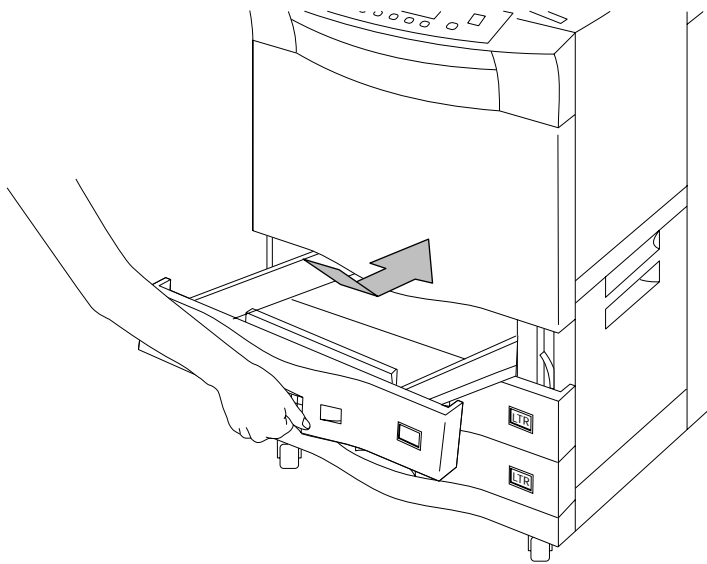

Figure 4-49 Installing Custom Tray
3. Insert the Custom Tray at an angle then lower and push in, as shown in Figure 4-49.